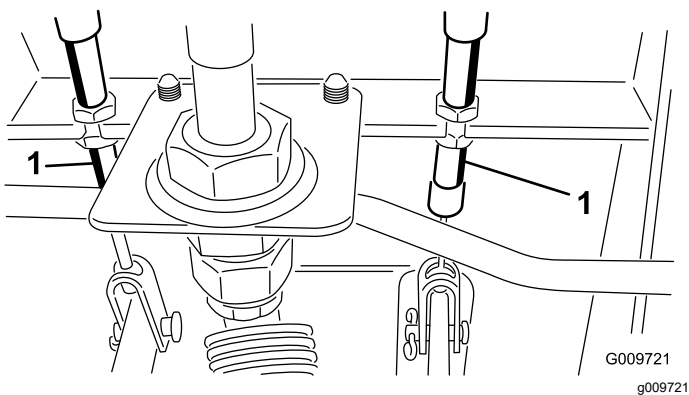

Figure 117
- A. Loosen the front nut on the threaded end of the brake cable (Figure 117).